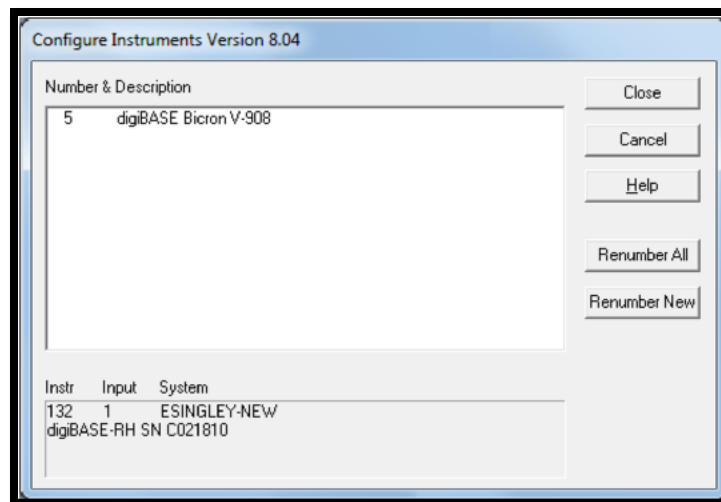

Figure 4. MCB Numbering and Descriptions
- 3) To start the software, type **mcb** in the “Search programs and files” box on the Windows Start menu, then click the **MCB Configuration** search result; or open the Windows Start menu and click **MAESTRO**, then **MCB Configuration**. The MCB Configuration program will locate all of the powered-on ORTEC MCBs on the local computer and the network and display the list of instruments found (the *Master Instrument List*; Figure 4). If desired, users may enter customized instrument ID numbers and descriptions (Section 2.3.4.2). When the dialog box is closed, any changes made to an ID number or description will be written back to the corresponding MCB.